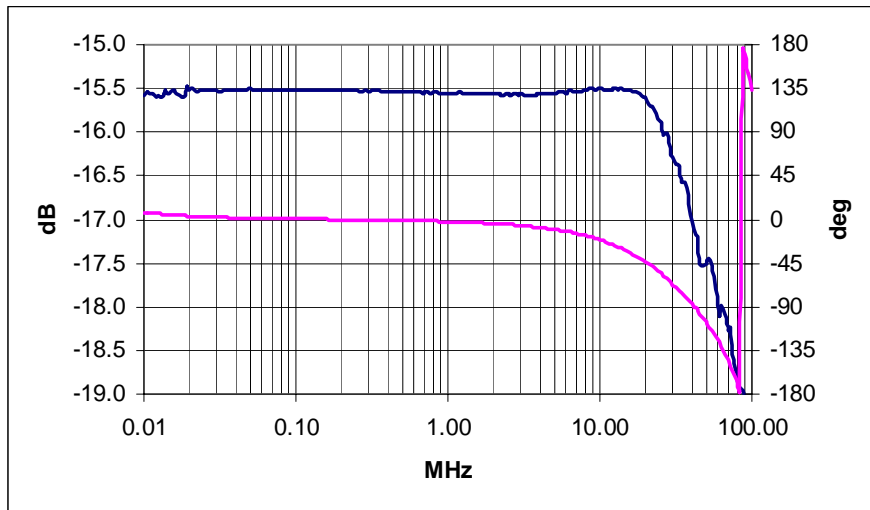

Figure 8 – Output Combiner Transfer Function
3.1	Load with 50 Ω one of the SMA connectors mounted on 'B' points and use the other one as input for this measurement. Load three of the amplifier outputs on 50 W and use the fourth one as output for the measurement. Measure the transfer function (reference shown in fig. 8). Repeat the measurement entering from the SMA connector mounted on the second 1500 W module.